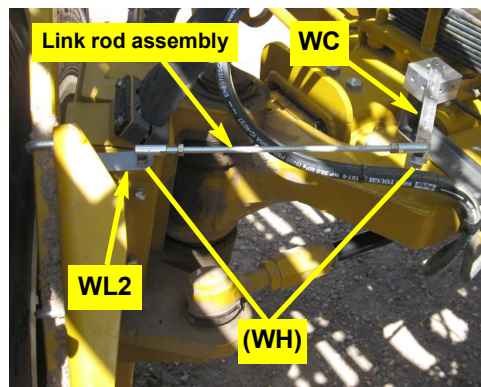

Figure 2d: Installed WAS link rod assembly
- d. Using hardware **WH** (not visible), install the link rod assembly from step 1 between the last hole in WAS arm **WC** and bracket **WL2**. Set the swivel studs downward at both ends (Figure 2d - leave swivel nuts **WH** loose).